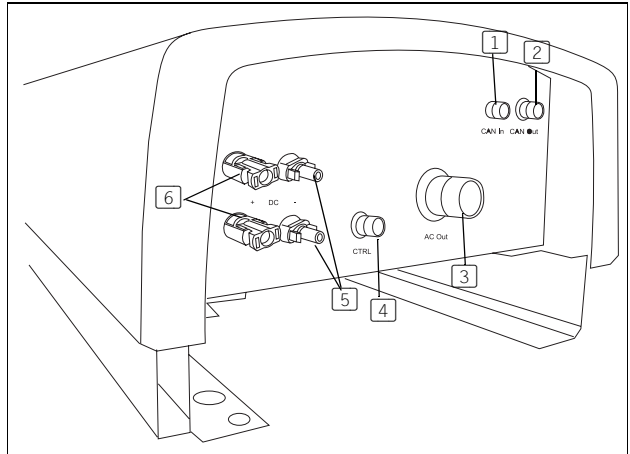

Fig. 6-1: Connections of the string inverter
Each inverter of the Conergy IPG string inverter series has a 5-pole **AC out** socket (see Fig. 6-1, page 35, pos. ③) for the connection to the grid. Use a PZ1 screwdriver and tighten the screws to 0.5–1 Nm. The mains cable must have a cable section of 4 mm2.
If you have chosen to use the Internet-based Conergy SunReader monitoring system, connect the Conergy IPG series string inverter to the Conergy data logger. Each Conergy IPG series string inverter has a **CAN In** connection (see Fig. 6-1, page 35, pos. 1). The CAN cable is included in delivery of the Conergy SunReader. Please see the Conergy SunReader instruction manual for further information.